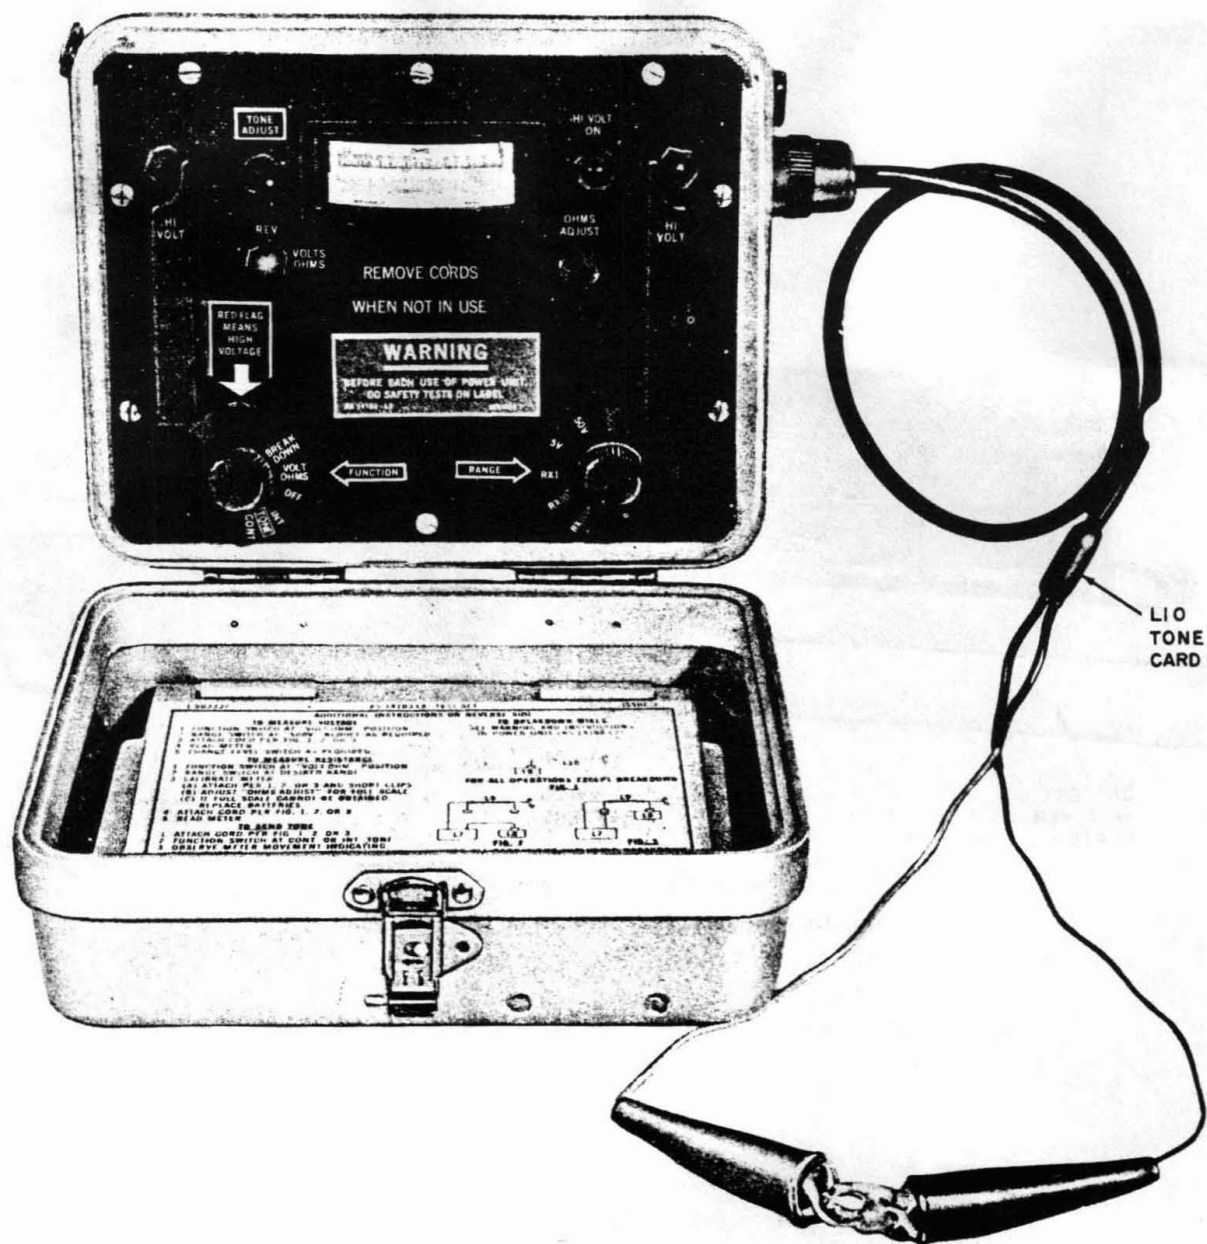

Fig. 19—Testing Batteries In L8 Control Unit
- (b) Replace the fourteen KS-14196 batteries in the L7 power unit (Fig. 19) if the meter reads less than 2 amps.